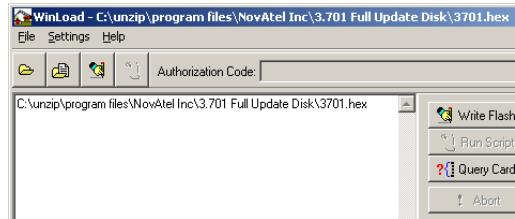

Figure 21: Open File in WinLoad
Once you have selected your file and clicked Open, the name of the file appears in the main WinLoad display area and in the title bar, see *Figure 21*.
3. Make sure the file path and file name are displayed in main display area, see *Figure 21, Open File in WinLoad* on page 71.